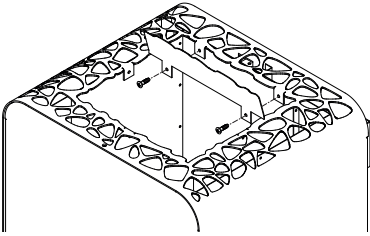

Fig. 4
- Attach the enclosed heat reflection panel as shown in Fig. 4. To do this, first remove the two screws on the top cover and then reuse them again to fasten the cover.